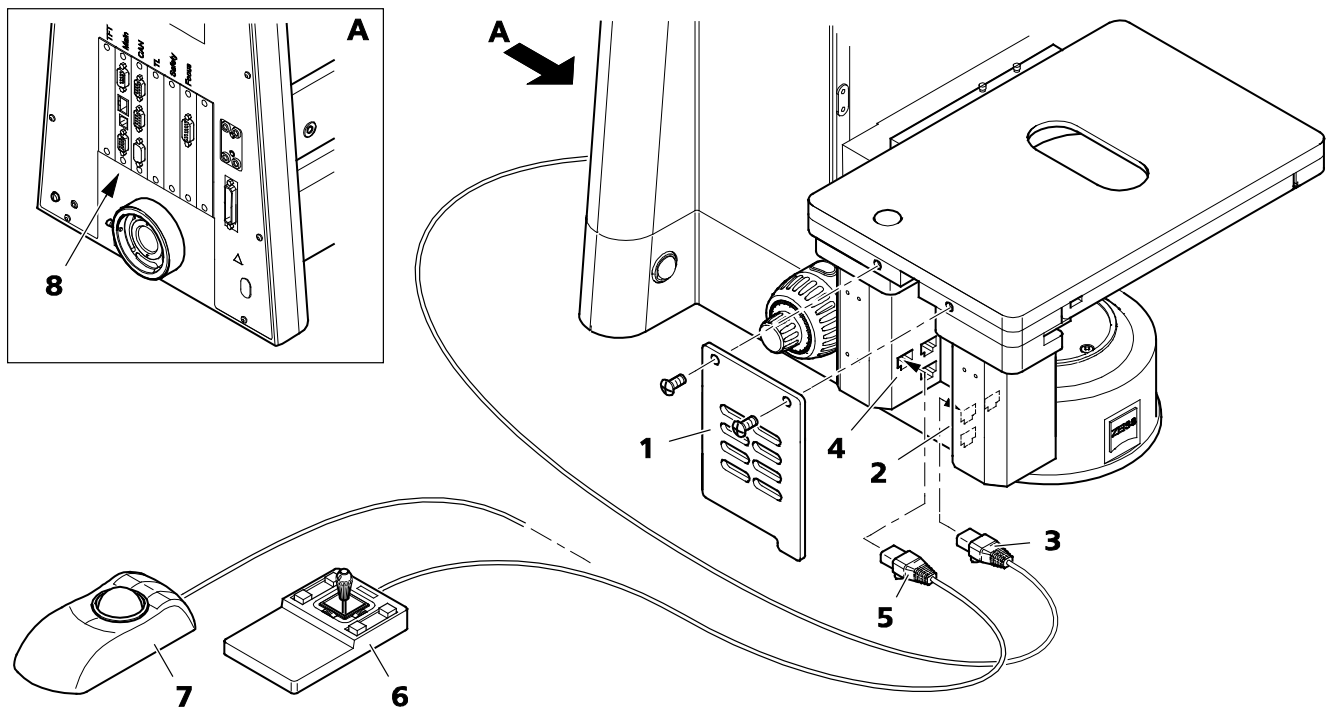

Fig. 72 Assembling mechanical stage 75 x 50 mot. CAN and connecting joystick / trackball
- Remove cover (Fig. 72/1) by loosening the two screws.
- Depending on which is used, insert the CAN connecting plug (Fig. 72/5) of the joystick (Fig. 72/6) or the trackball (Fig. 72/7) into the connection socket on the mechanical stage (Fig. 72/4).
- Connect the CAN connection socket on the mechanical stage (Fig. 72/2) to that on the rear of the stand (Fig. 72/8) using a CAN-bus cable (Fig. 72/3).
- Replace the cover (Fig. 72/1).